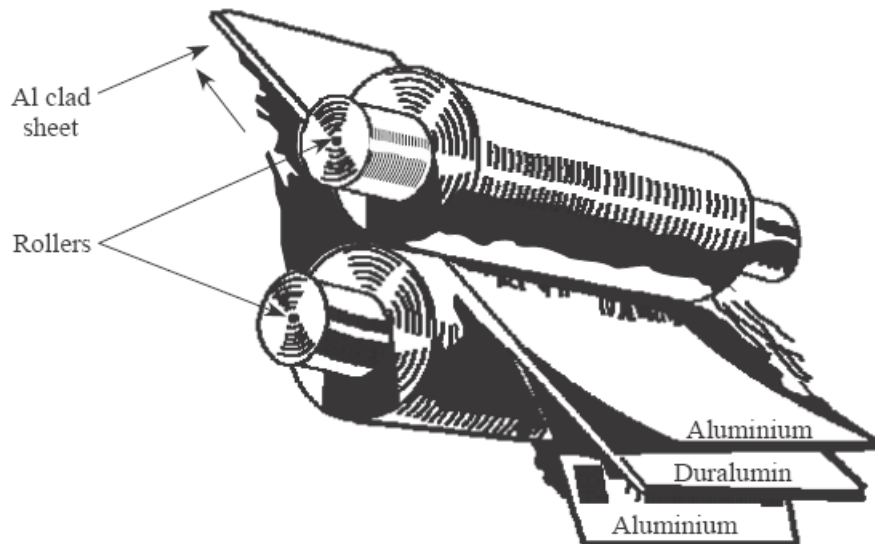

Fig. 2.10 The cladding of duralumin
- (xi) **Metal cladding** is a process of sandwiching a metal between two corrosion resistant metals. Ni, Pb, Cu, Al, Ag, Pt are used as cladding metals over a base metal. For example, aluminium acts as cladding metal for duralumin (Fig. 2.10).